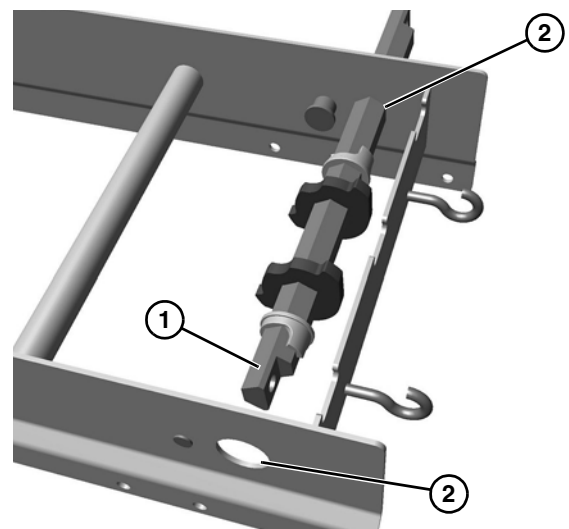

Figure 17
2. Place hex shaft assembly (Figure 17, item 1) through the conveyor frame tip up holes (Figure 17, item 2) and center with conveyor.